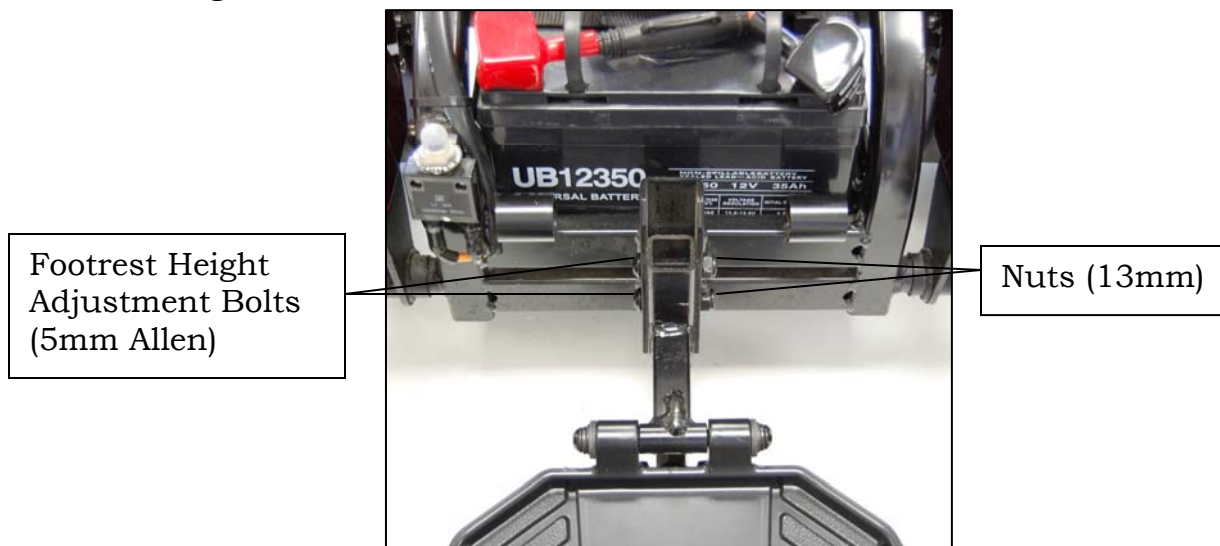

Figure 16
2. Use a 13mm socket and 5mm Allen wrench to remove the bolts. See figure 16.